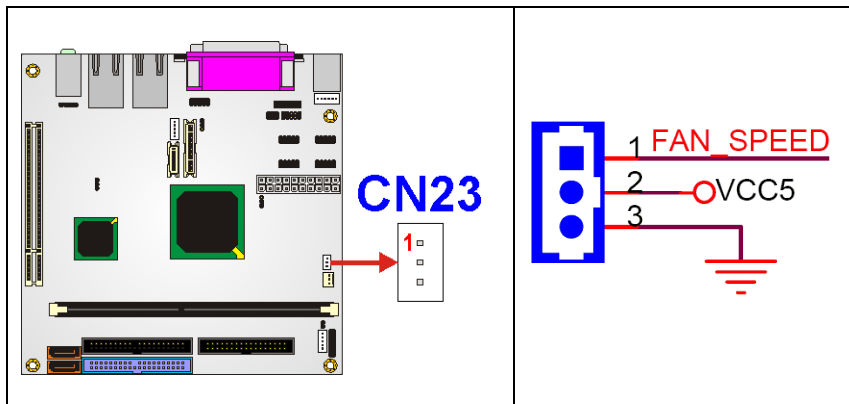

Figure 3-4: 5V Fan Connector Pinout Locations
- CN Location: See **Figure 3-4**